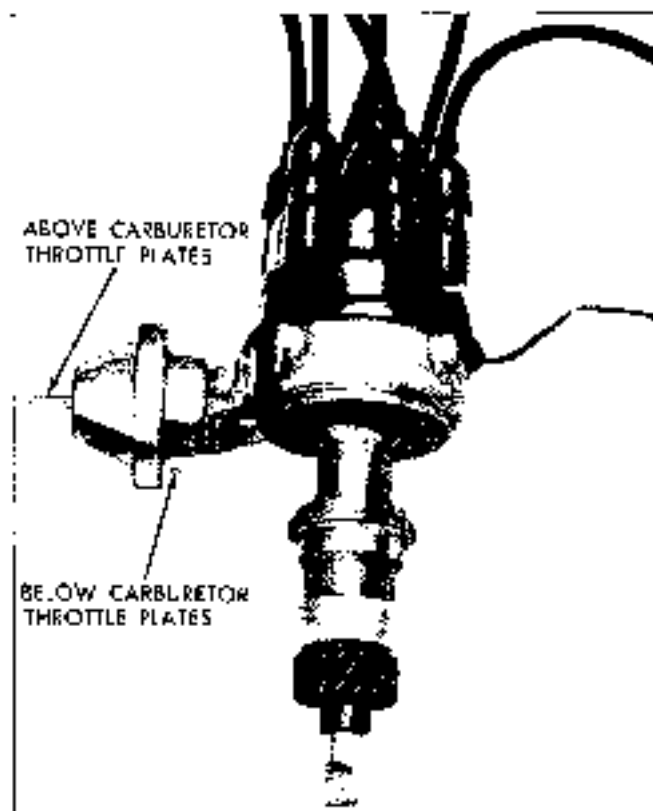

Fig. 6E-23 Positions of Vacuum hoses - V-8 Distributor
1. Check to see that engine is at firing position for No. 1 cylinder (No. 1 piston at top of compression stroke) and timing mark on harmonic balancer is indexed with the proper mark on the lower timing belt cover (Fig. 6E-29).
3. Before installing distributor, index rotor with housing as noted when distributor was removed (Fig. 6E-24). This will simplify indexing the distributor shaft and gear with oil pump drive shaft and distributor drive gear. Distributor and rotor will be positioned properly when installed with No. 1 piston in firing position.